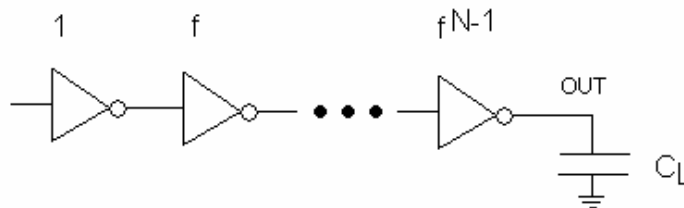

Figure 3a: Progressively Sized Inverter Chain
- Consider the chain of N progressively sized inverters shown in Figure 3a (the first is minimum sized). If the output load $C_L = 40C_{\text{unit}}$, what sizing factor f would minimize the total delay for a chain of $N=5$ inverters? Find the total delay of this chain in terms of τ_{inv} .